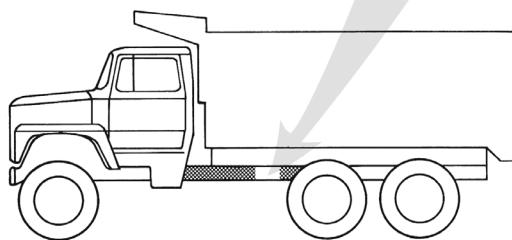

Figure 1
The two (2) Truck Frame Labels, which measure approximately 4" x 8", are to be placed on the outside of the vehicle frame rail. These labels are to be easily seen by anyone who might go under the truck or near the PTO. One label is to be placed on each side of the vehicle. See Figure 1.